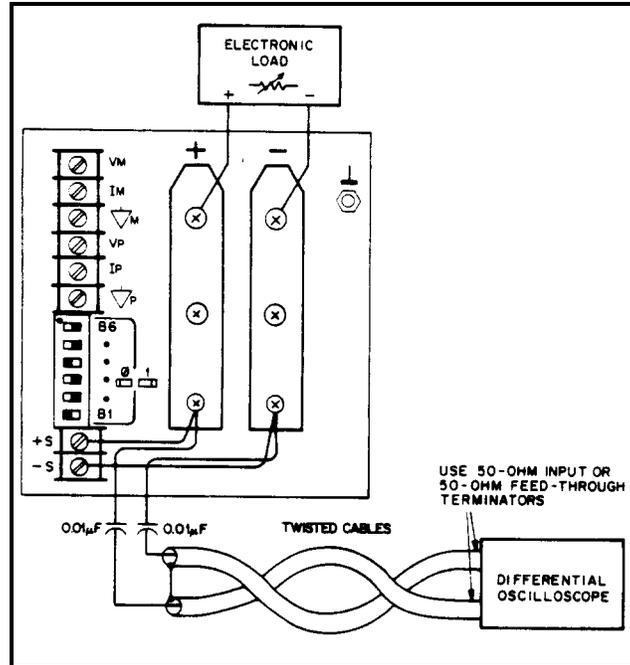

Figure 2-7. Peak-To-Peak Measurement Test Setup, CV PARD Test
Peak Measurement Procedure. Figure 2-7 shows the interconnections of equipment to measure PARD in V_{pp} . The equipment grounding and power connection instructions of Paragraph 2-36 apply to this setup also. Connect the oscilloscope to the + S and - S terminals through $0.01\mu\text{F}$ blocking capacitors to protect the oscilloscope's input from the unit's output voltage. To reduce common-mode noise pickup, set up the oscilloscope for a differential, two-channel voltage measurement. To reduce normal-mode noise pickup, use matched-length, 1 meter or shorter, 50Ω coaxial cables with shields connected to the oscilloscope case and to each other at the other ends. Proceed as follows:
- a. Connect the test equipment as shown in Figure 2-7. Operate the load in constant resistance mode (Amps/Volt) and set resistance to maximum.